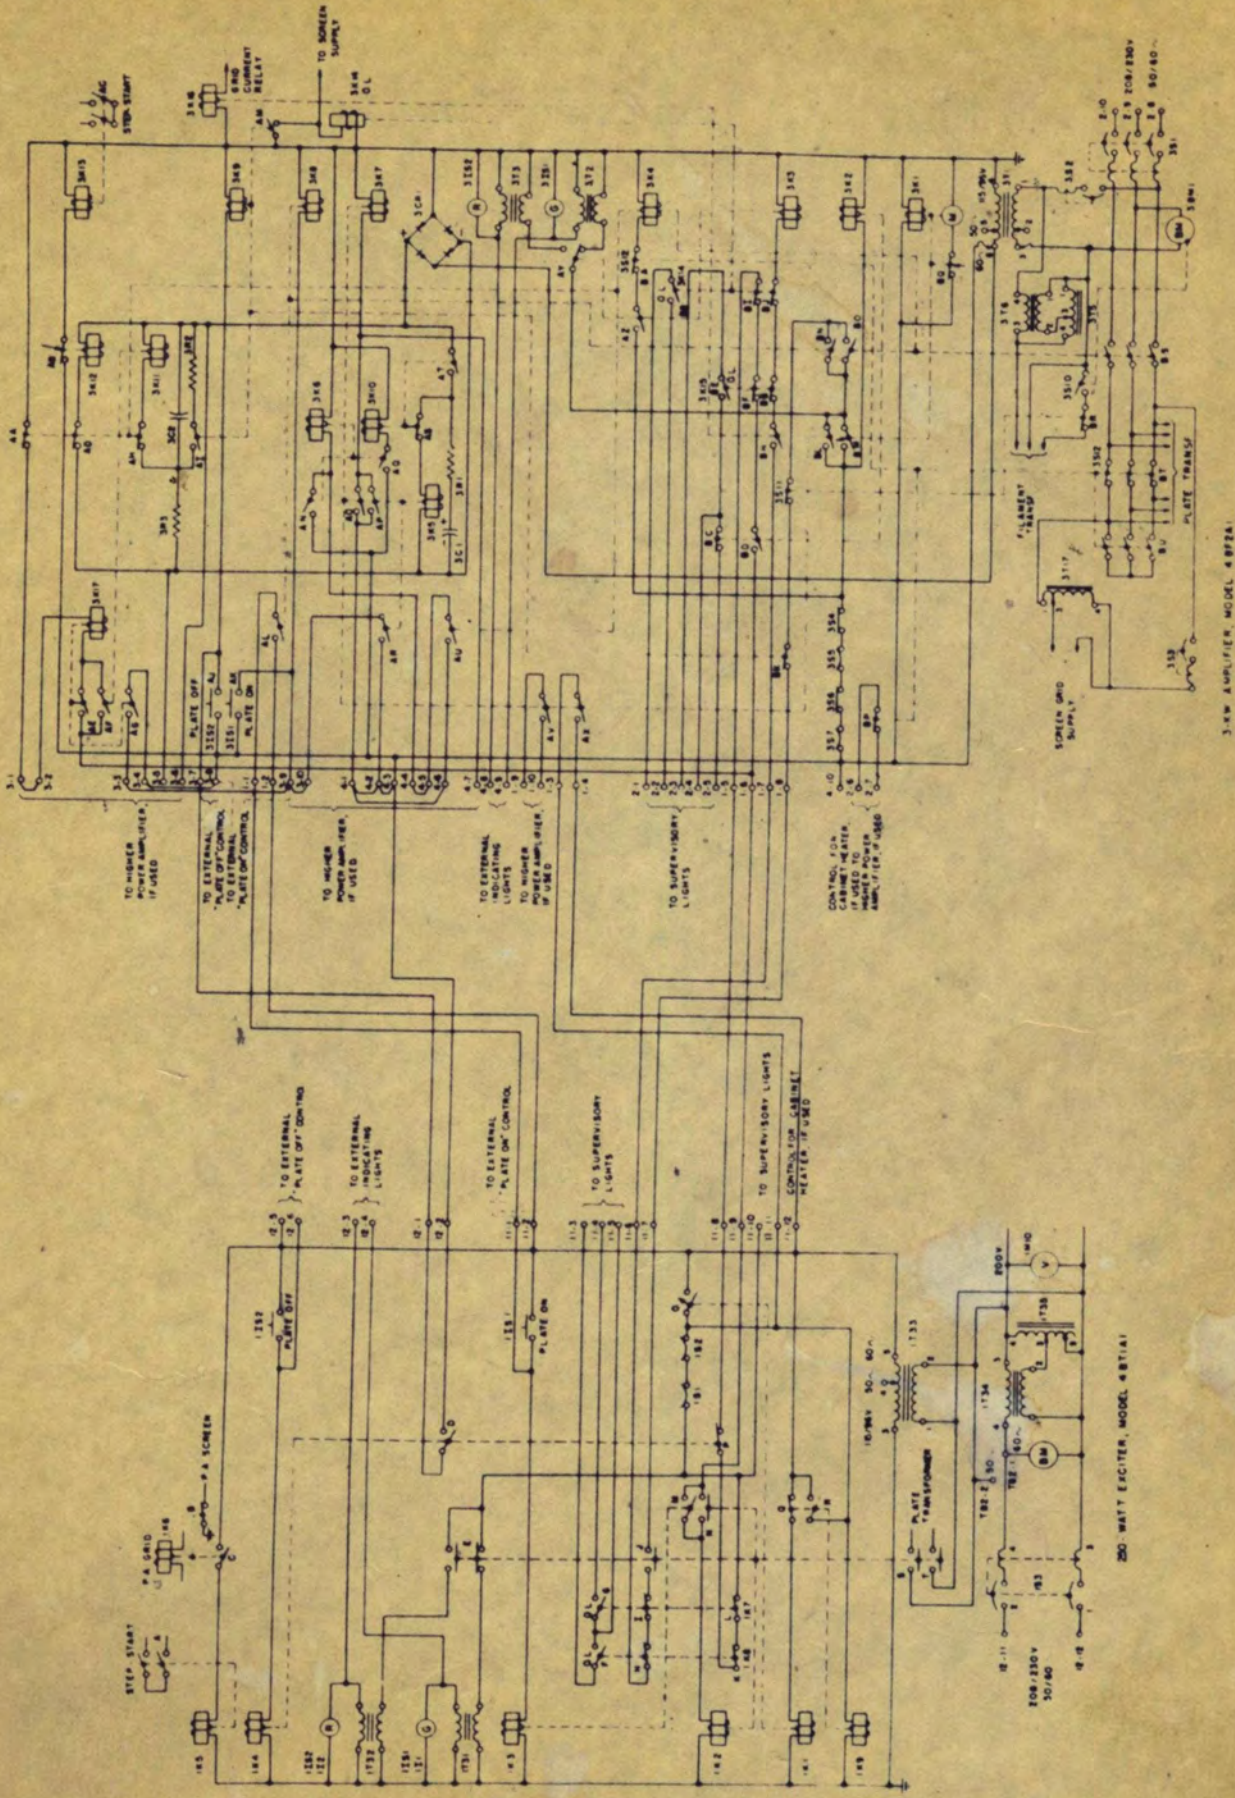
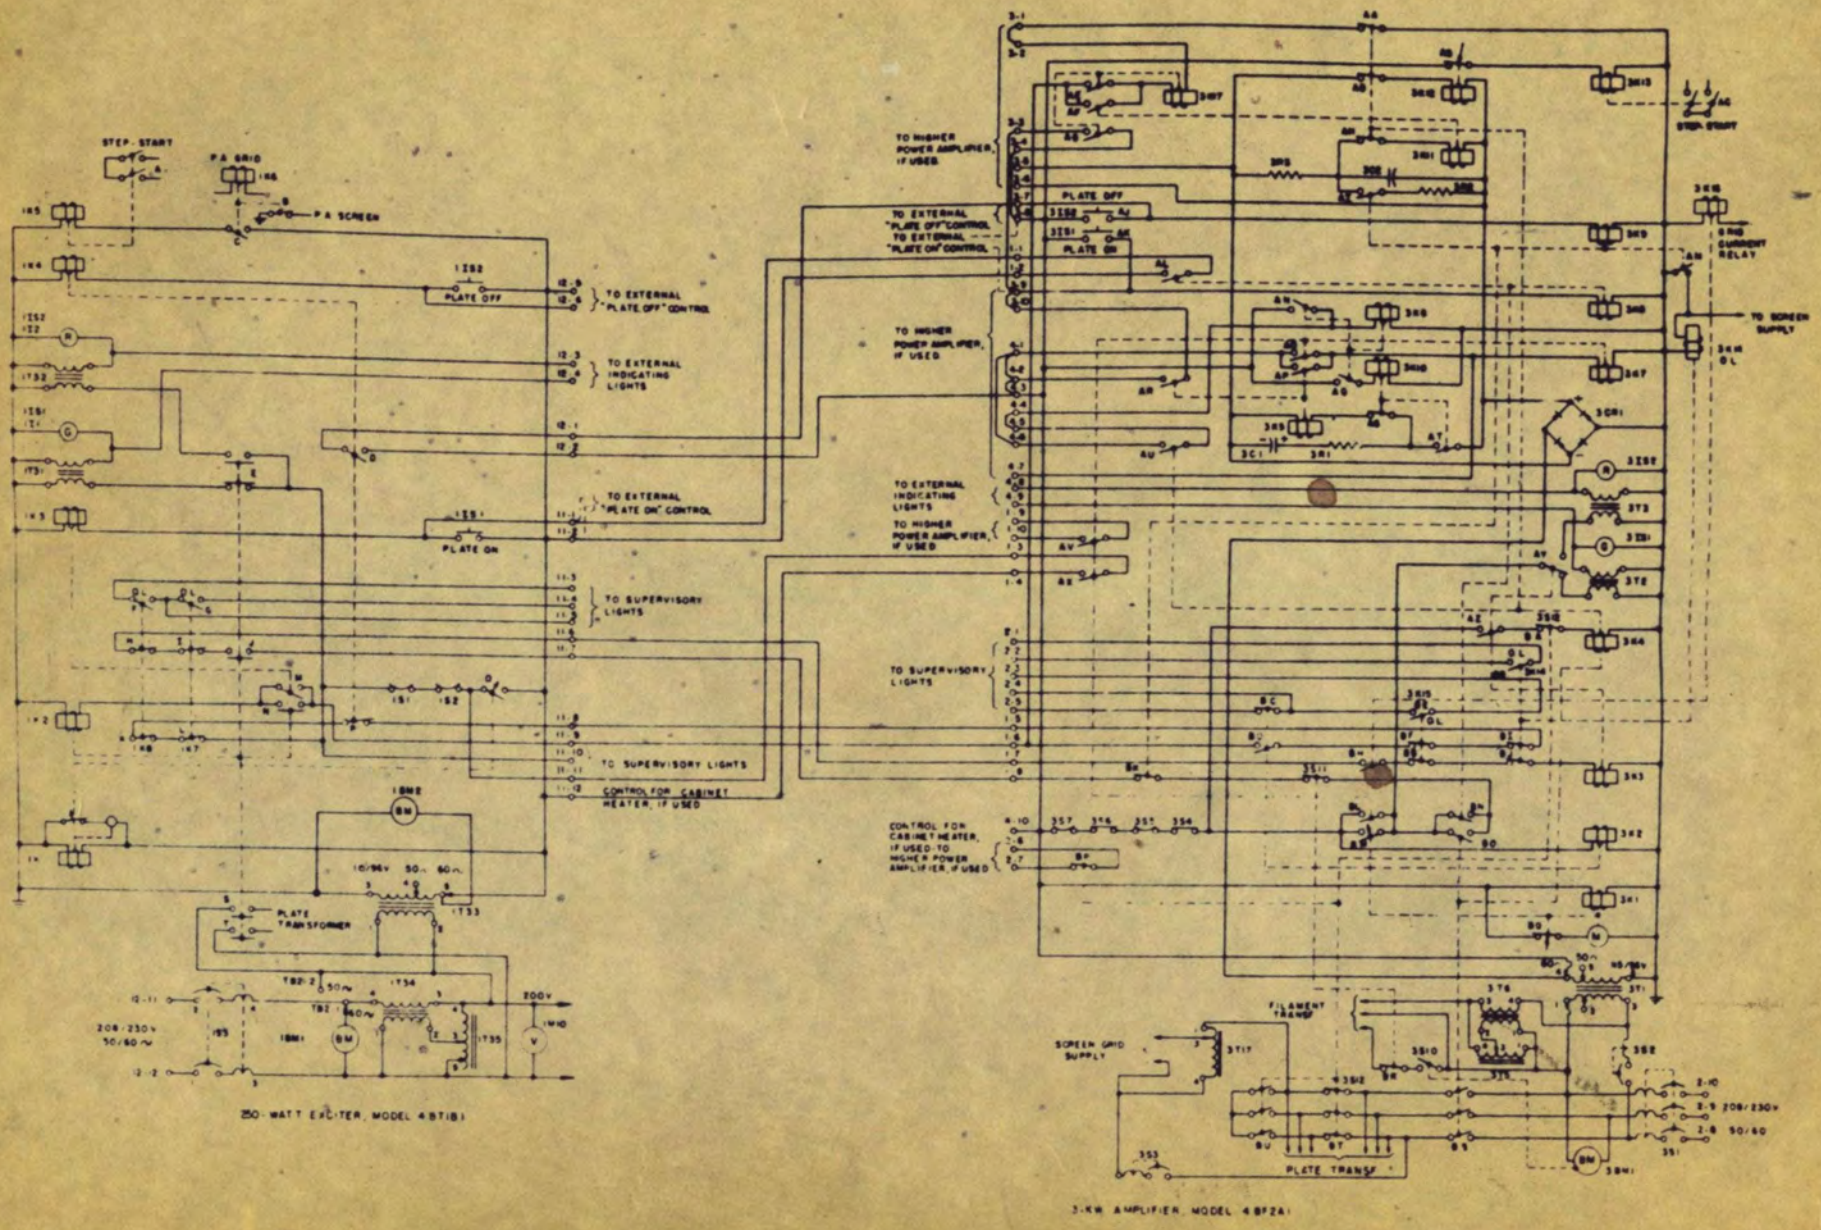

Fig. 7a. Elementary Diagram of Control Circuits with Type BT-1-A Exciter (T-7665024, Rev. 5)
Fig. 7b. Elementary Diagram of Control Circuits with Type BT-1-B Exciter (T-7665576, Rev. 1)
A. The control circuits may be analyzed by referring to the Elementary Diagram of Control Circuits, Fig. 7a or 7b. These drawings show the control circuits in both the 250-watt Exciter, G-E Type BT-1-A or -B, and the 3-KW Amplifier, G-E Type BF-2-A, with the necessary inter-connecting wiring.
Either the G-E Type BT-1-A or BT-1-B 250-Watt Transmitter may be used as an exciter with the 3-KW Amplifier. Therefore, two Control Diagrams, Figs. 7a and 7b are included in this book. (Fig. 7a applies when the Type BT-1-A Exciter is used, and Fig. 7b applies when the Type BT-1-B Exciter is used). Since the customer is concerned only with the drawing which
B. Let us start with the power input terminals of the amplifier (lower right corner of Fig. 7a or 7b) and analyze the circuits of the switches and relays which will start the amplifier, protect its operation, and shut it off.
The Control Diagram, Fig. 7a or 7b is drawn showing connection for a transmitter input voltage of 230 volts. Under this condition it is possible to adjust 3T5 for correct filament voltage with a transmitter input voltage in the range 218 to 245 volts.
60-cycle tap (terminal 6) and 96 volts on the 50-cycle tap (terminal 5). The purpose of this transformer is threefold: first, it permits the use of standard 115-volt relays on either 50 or 60 cycles; second, it reduces the exposed potentials on all the control circuits which remain energized when the rear door is opened; and third, it allows one side of the control circuit to be grounded. As shown on the Control Diagram, Fig. 7a or 7b, 3T1 is connected for 230-volt input operation. For 208-volt input operation, the lead on terminal